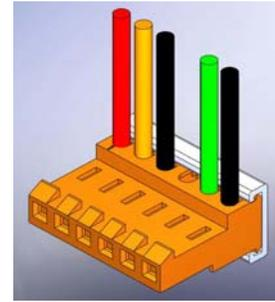

Figure 1: Connector.
-   Trim wires to desired length. The green and black wires are the sensor and ground connection, and connect to cavities 5 and 6 of the orange connector respectively (see Figure 1).
8  Install the connector onto the back of the gauge (angled portion on end of connector pointing up as in Figure 1), and then secure the gauge in its mounting location. If drilling a mounting hole in a panel to mount this gauge, the hole size should be 2.040”. Mounting Kit R19999 is available for larger mounting holes up to 2.200”.